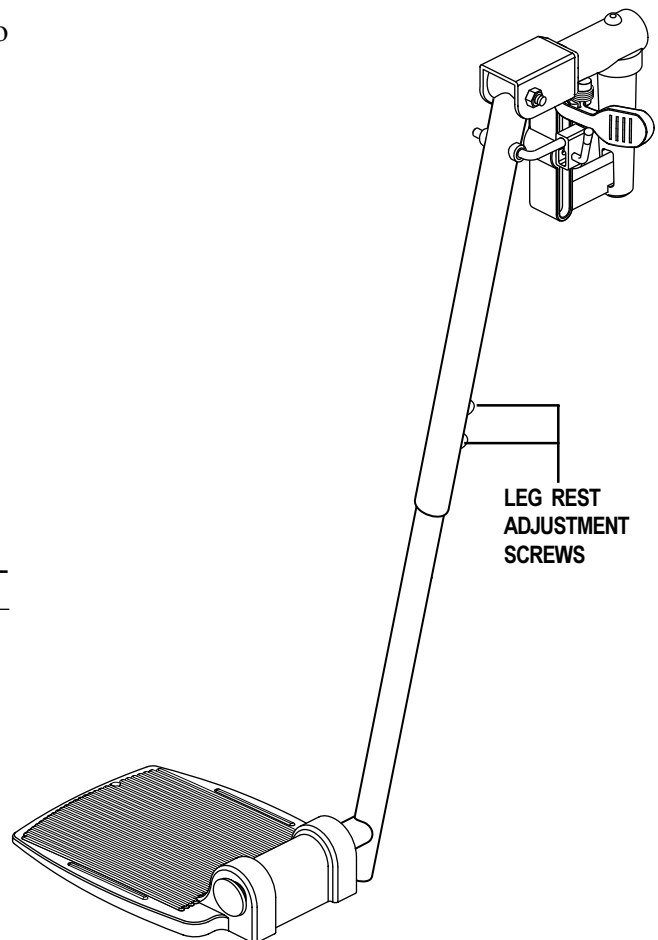

Figure 17. Elevating Leg Rests (Swing-away is similar.)
1. Remove the two screws from the side of each leg rest extension. See figure 17.